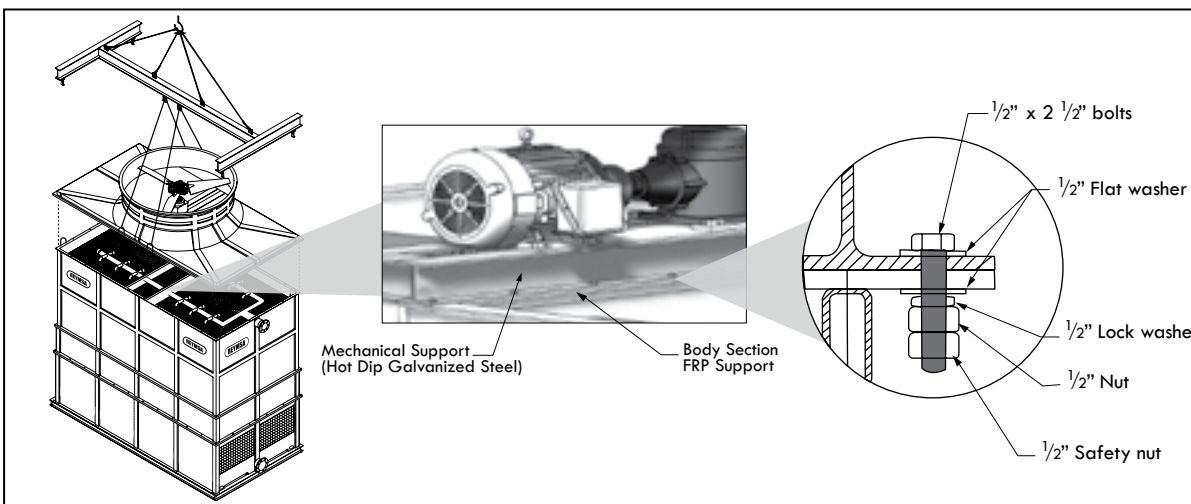
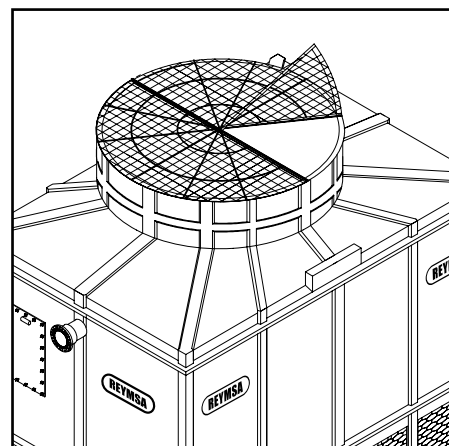

Figure A-89: Fan Deck assembly for an RTGM or RTGMTC model.
Figure A-92: Fan guard access door for RTGM and RTGMTC models.
- O.** RTGM and RTGMTC models have a section called “Fan Deck” which is at the top of the Tower (see Figure A-89). The Fan Deck with duct contains a gear drive fan and a motor mounted on a structural Hot Dip Galvanized Steel support with an “I” shape configuration, and a corrosion resistant safety screen mesh.
- S.** After installing the fan deck section, access to inside of the fan deck section and bolt down the Galvanized Steel mechanical support to the Fiberglass (FRP) support (see Figure A-89). The Galvanized Steel mechanical support is built in an “I” shaped configuration and this mechanical support must be bolted to the Fiberglass (FRP) support in the upper section on which it sets. The bolts must be installed on the full perimeter of the “I” shaped mechanical support. Access to perform this assembly inside to tower is through the fan guard access door (see Figure A-92).
- Z. The 10 and 12 wide RTGM and 10, 12 and 14 wide RTGMTC models have an access door on the fan guard to access the inside of the fan deck (see Figure A-92).